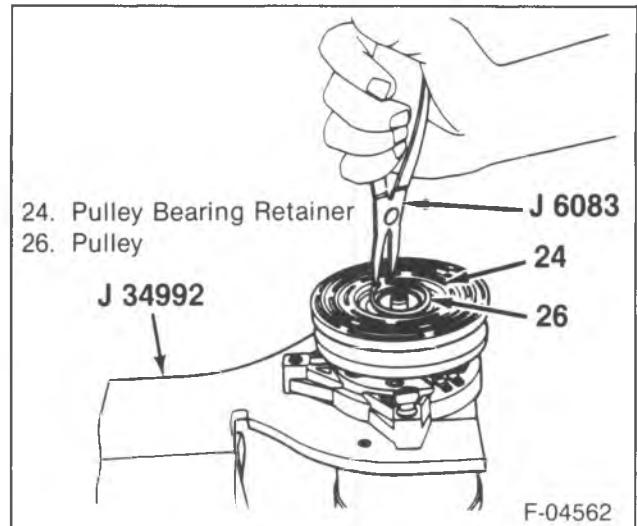
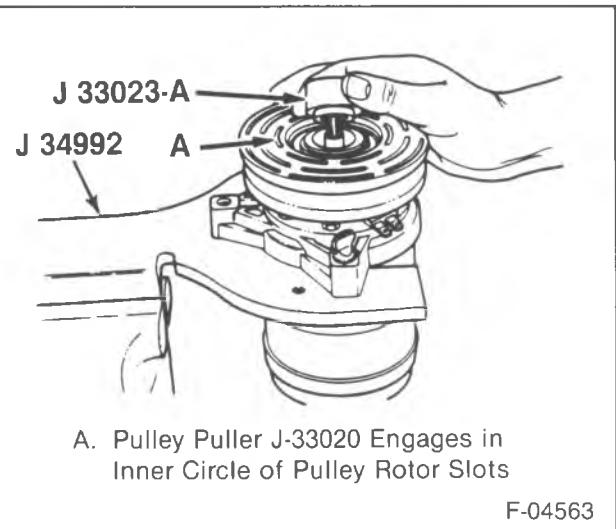

Figure 9—Removing the Pulley Rotor and Bearing Assembly Retaining Ring
Figure 10—Installing the Pulley Rotor and Bearing Puller Guide
1. Clutch plate and hub assembly (22).
2. Pulley bearing retainer (24) using J 6083 (figure 9).
3. Pulley (26).
- Install J 33023-A to the front head (figure 10).
- Tighten the center screw in J 8433-1 to force the pulley and bearing assembly onto the compressor front head (33).
- 4. Pulley bearing retainer (24) using J 6083 (figure 9).
- 5. Clutch plate and hub assembly (22).